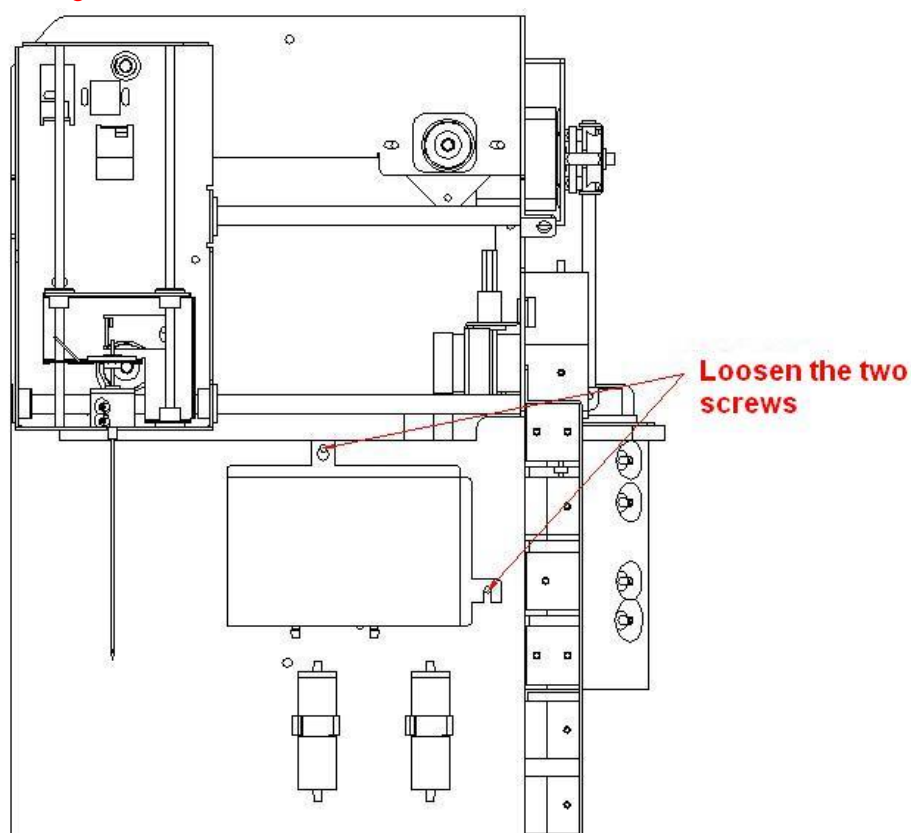

Figure 5-1 Take out the counting bath
- 1) At first, remove the two screws which fix the side covers, also remove the screw at backside, and remove the side covers. Loosen the two screws which fix the shielding cover of counting bath, lift the shielding cover and remove it, you can see WBC/RBC counting bath assembly, as shown in figure 5-1: